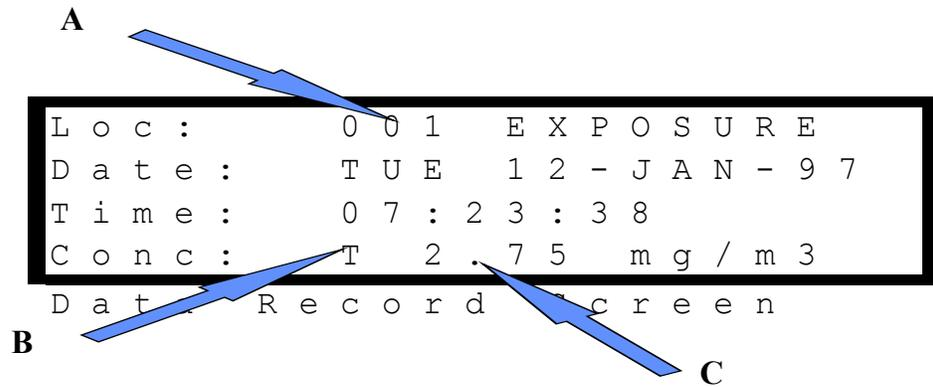

Figure 3.10. The Data Record Screen. The table below describes the diagram details.
<ul style="list-style-type: none"> <li>• The internal pump is activated and the sampling process begins.</li> <li>• The Data Record Screen is displayed (figure 3.10).</li> </ul>
**Introduction** The Haz-Dust IV assigns a location code to each sampling sequence. The active location is indicated in the Data Record Screen (figure 3.10).